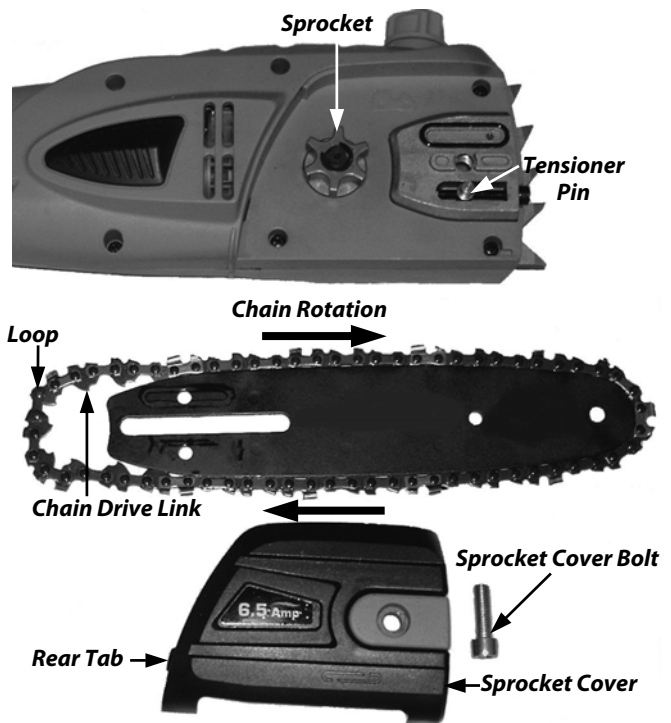
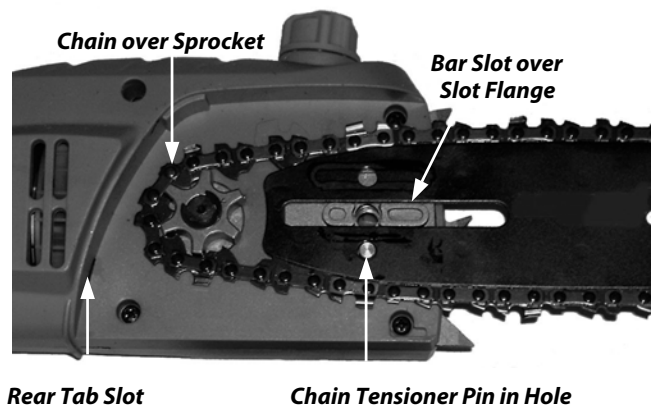
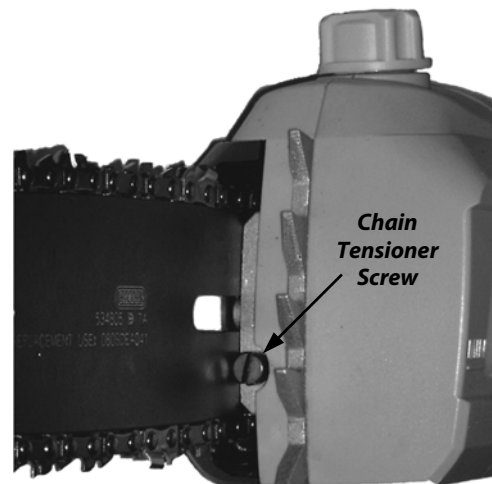

Figure 1
Figure 2
Figure 3
1. Using a 7/32" Hex Key Wrench, unscrew the Sprocket Cover Bolt and remove the Cover (**Figure 1**).
2. Lay out the Saw Chain in a loop and straighten any kinks. The sharp side of the Teeth should face in the direction of the Chain rotation (**Figure 1**). If they face backwards, turn the loop over.
3. Place the Chain Drive Links into the Bar groove (**Figure 1**).
4. Position the Chain so there is a loop at the back of the Bar (**Figure 1**). Hold the Chain in position on the Bar and place the loop around the Sprocket (**Figure 2**).
NOTE: When placing the Bar on the Flange, ensure that the Tensioner Pin is in the Chain Tensioner Pin Hole in the Bar (**Figure 2**). Adjust the Chain Tensioner Pin as needed by adjusting the Chain Tensioner with a Flat Tip Screwdriver (**Figure 3**).
6. Tighten the Chain Tensioner Screw only enough to hold the Bar and Chain in place (**Figure 3**) ensuring the Chain is still in place over the Sprocket (**Figure 2**).
7. Install the Sprocket Cover by inserting the rear tab (**Figure 1**) first into the Rear Tab Slot (**Figure 2**) and position the Cover onto the Saw Head.
9. Remove all slack from the Chain by turning the Chain Tensioner Screw (**Figure 3**) clockwise until the Chain seats snugly against the Bar with the Drive Links in the Bar groove. For more information on Chain tensioning, see Chapter 4 "Maintaining Your NEUTON Corded Pole Saw".